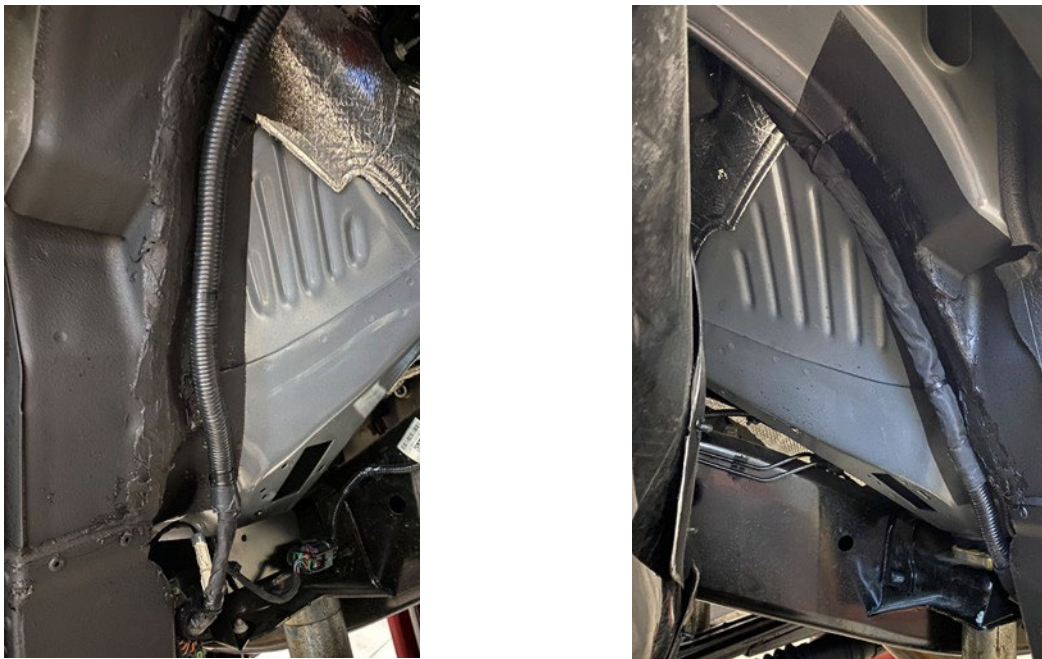

Figure 7
D. Route and secure the factor harness inboard of the pinch weld on both driver and passenger sides (fig. 7).